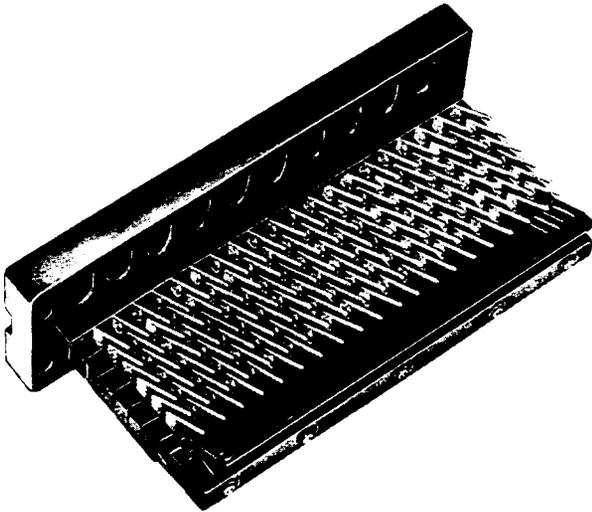

Figure 41—Terminal Strip
**9.01** Terminal strips (Figure 41) are used for the termination of equipment cabling and cross-connections to outside plant and intraoffice equipment on various distributing frames.